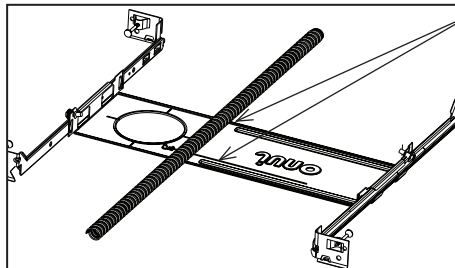

Figure 11
Step 3. Use steel wire on plaster frame to secure flexible supply. It is critical that the flex supply is accessible from below the ceiling where there is no top access to the fixture location (Fig. 11). Leave adequate length (1' minimum) that can be pulled into room after ceiling installation.